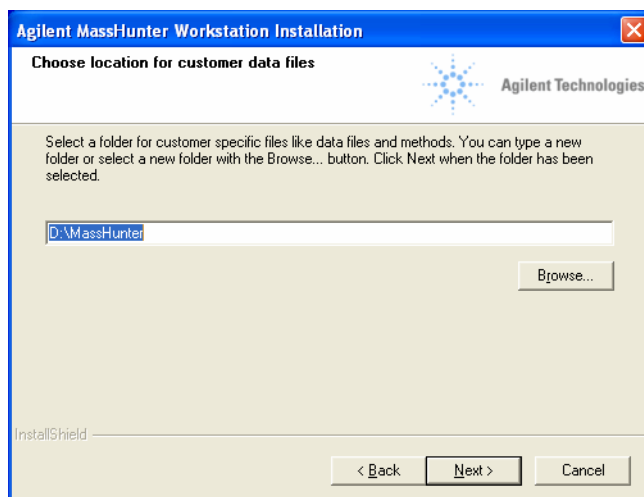

Figure 20 Location for data files
- f In the Choose location for customer data files screen, check that the default of D:\MassHunter is displayed in the text box, then click **Next**. See Figure 20.